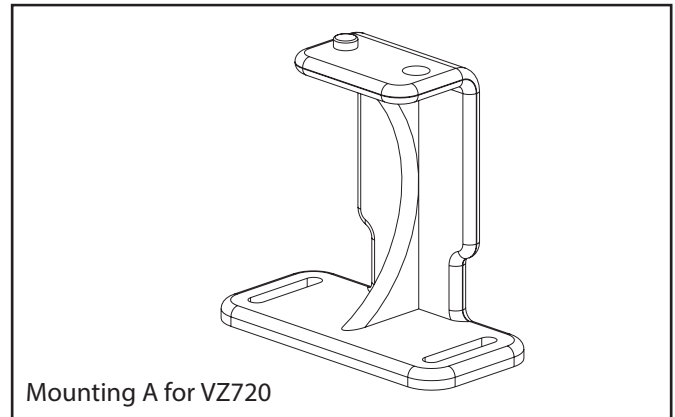

Fig. 8 : Standard aluminium support
- Function : used for any type of glass-covered conservatory framework and for all wooden pergolas and veranda systems (for this see fig. 8)